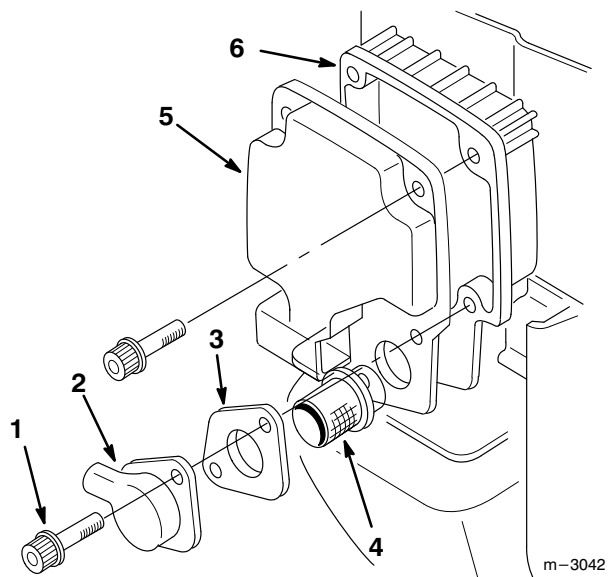

Figure 21
3. Remove the two socket head screws holding the spark arrester assembly to the muffler (Fig. 21).
5. Reinstall the spark arrester, gasket and tail onto the muffler, then reinstall and tighten the two socket head screws (Fig. 21).
3. Remove the two socket head screws holding the spark arrester assembly to the muffler and remove the tail, gasket and spark arrester (Fig. 21).
4. Remove the three socket head screws holding the muffler cover to the muffler body and remove the muffler cover (Fig. 21).
5. Clean the muffler body and cover with a safety solvent and a stiff brush (Fig. 21).
- A. Apply liquid gasket (p/n M261910) to the muffler cover sealing surfaces, then reinstall the cover onto the muffler body (Fig. 21).
- B. Apply removable Loctite to the three socket head muffler cover screws, then reinstall and tighten the three screws (Fig. 21).
7. Reinstall the spark arrester, gasket and tail onto the muffler, then reinstall and tighten the two socket head screws (Fig. 21).